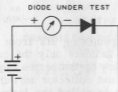

Figure 3
For diode testing the circuit is connected as shown in Figure 3. The FOR-REV (forward-reverse) switch is in the FOR position and the HI-LO switch is in the diode (D) position.